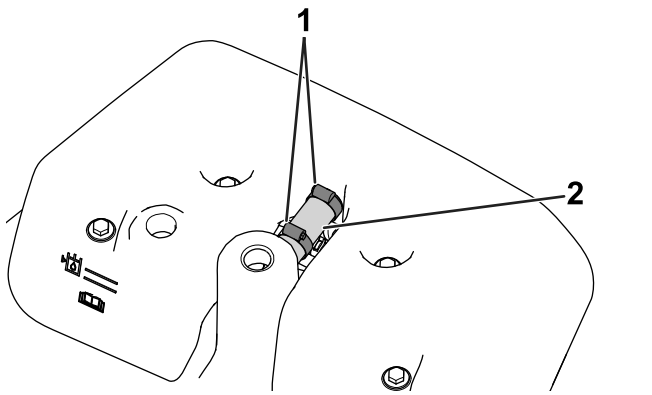

Figure 3
8. If your machine is equipped with an overflow hose, loosen the worm-drive clamps and remove the overflow hose (Figure 3).
1. Remove plug from main 2. Indicator arrow on nut (2) hydraulic tank here.
15. Use 2 worm-drive clamps to secure the overflow hose to the leak detector tank and the hydraulic tank (Figure 3).